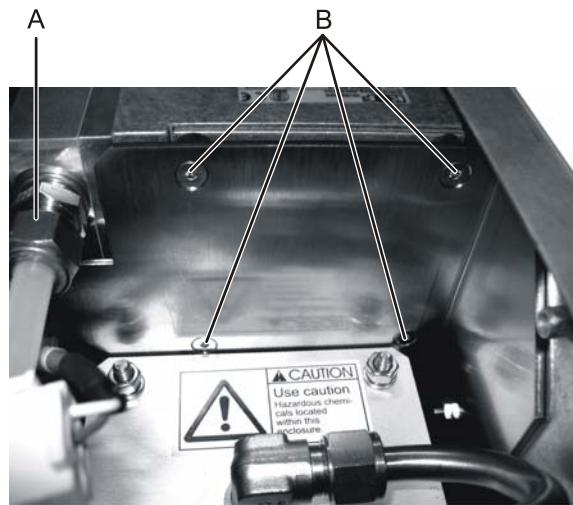

Figure 94: Removing the vacuum pump
3. Use the 19 mm wrench to loosen and disconnect the exhaust inlet line from the vacuum pump (see Figure 94, A).